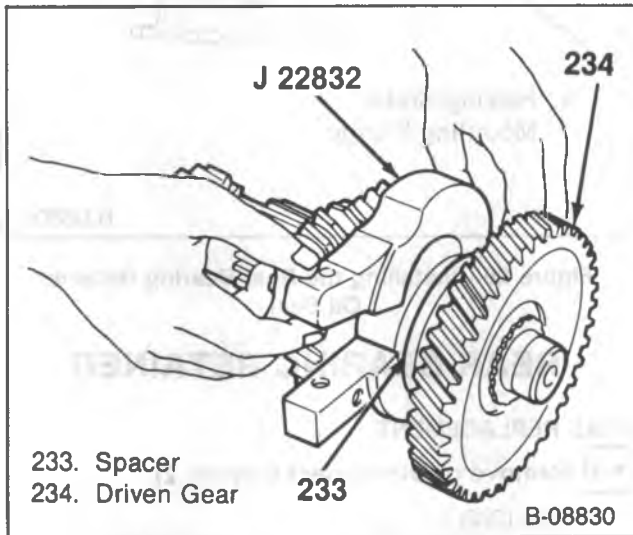

Figure 23—Installing Tool J 22832
1. Snap ring and the thrust washer (235).
2. Driven gear (234).
- Install J 22832-01 with the open side to the spacer (figure 23).